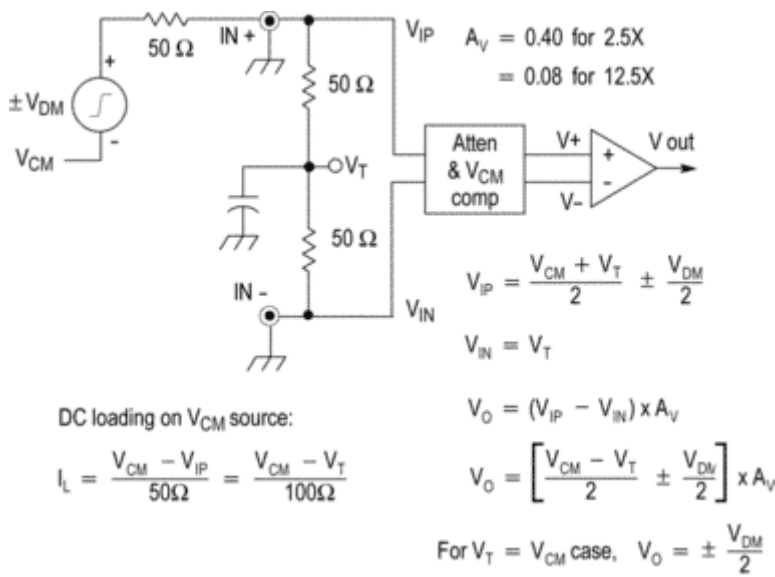

Figure 11: Open (-) input
**Open (-) Input.** Another alternative single-ended measurement topology is shown. (See Figure 11.) In this case, the (-) input is left open, effectively keeping it at the  $V_T$  voltage level. The general equations describing the response and loading of this topology are also shown.
When making single-ended measurements of an HDMI signal, the best measurement topology will generally be the open (-) input topology. (See Figure 11 on page 14.) With an open (-) input on the probe, the DC termination voltage will largely be nulled out by the probe CMRR. This maximizes the dynamic range available for measuring the HDMI digital signal. Depending on the HDMI signal amplitude and whether the measurement is made on a full size transmitted signal or attenuated by cable loss, the P7313SMA probe attenuation setting may need to be set to 12.5X, rather than the less noisy 2.5X setting.